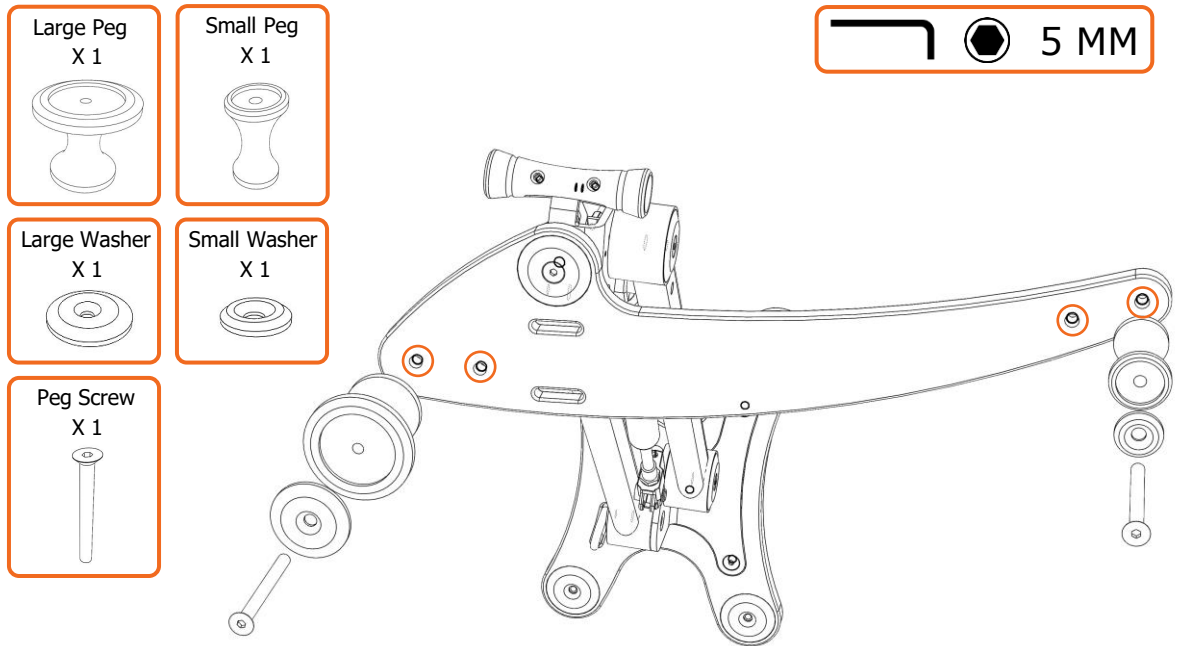

figure 6
Step 5: Using the hex key attach the two Pegs to the Cycle Cradle using the Peg Screws and the two remaining Washers in the order described (*figure 6*)